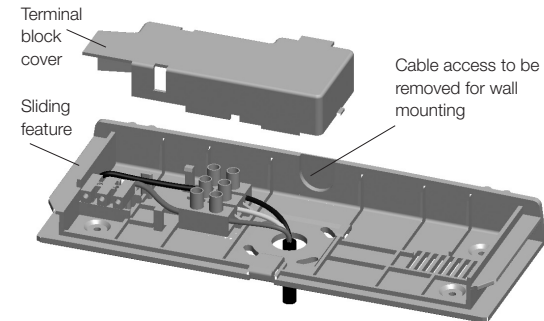

Figure 2: Terminal block connection diagram and internal view
- For wall mounted; drill 2 holes (Ø4 – Ø5mm) at the “V” shape feature in the back of the bracket (figure 1c and 1d) and knock out the cable access (figure 2). Hold the bracket against the wall, mark 2 mounting holes and the cable access hole.
6. Run the cables in the ceiling or wall space as appropriate and through the cable access hole into the bracket. Strip 9mm insulation length, connect and terminate the cables as indicated in figure 2. Ensure that the double insulation of the cable/s passes completely into the terminal block enclosure so that no single insulation is exposed when the cover is in place. Be careful with multi-strand conductors that all of the strands are twisted together before insertion into the terminal. Any stray strands that inadvertently come into contact with their neighbouring terminal will cause undesirable results when the fitting is powered.